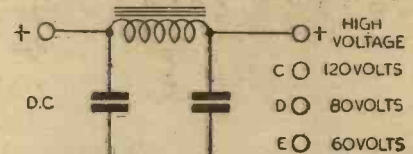

Fig. 2.—Indicates possible voltageappings required for an average installation.
From Ohm's Law, which, as every constructor should know, states that for a D.C. circuit "the current (I) flowing equals the voltage (E) divided by the resistance (R) of the circuit," it will be seen that before any arrangements can be made for voltage dividing or dropping, two factors must be known. Let us consider Fig. 2, which is intended to represent possible voltages which might be required, and as the voltage (Fig. 1) will have to be reduced by resistances to the lower values, it will be appreciated that the current consumption of the circuits which will be connected to the points C, D and E must be known, either by measurement or calculation, before the necessary resistance values can be determined. For example, supposing that the voltage at A is 200 volts, and that the current flowing in C, D and E is 10 mAs, 5 mAs and 2 mAs respectively. How does one calculate the resistance values?